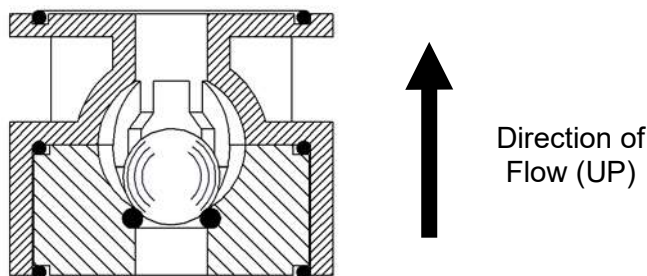

Figure 13: Cartridge Check Valve
10. Reinstall both new valve assemblies. For both the suction and discharge the valve orientation should be as shown in Figure 13.